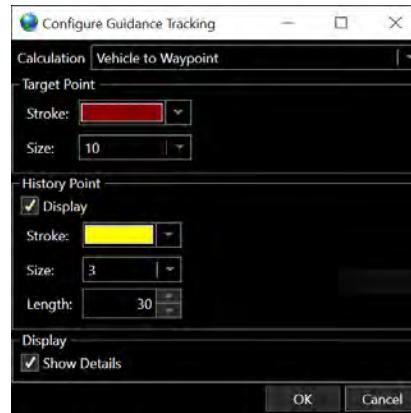

FIGURE 12-22 CONFIGURE GUIDANCE TRACKING WINDOW
3. The Configure Guidance Tracking Window dialog is displayed, as seen in Figure 12-22. Configure as necessary